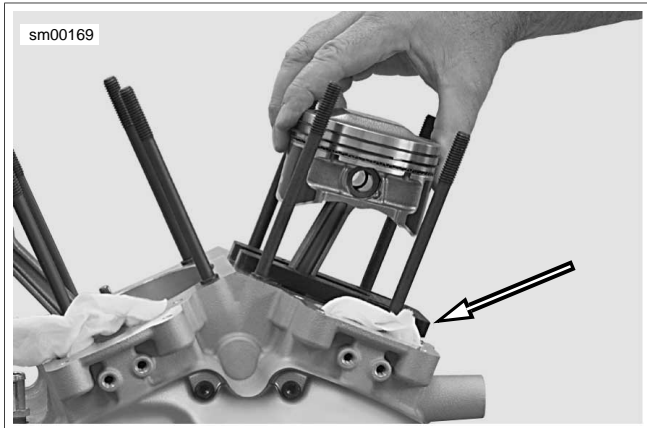

Figure 3-85. Piston Support Plate
1. See Figure 3-85. Place PISTON SUPPORT PLATE (Part No. HD-42322) in position as shown.